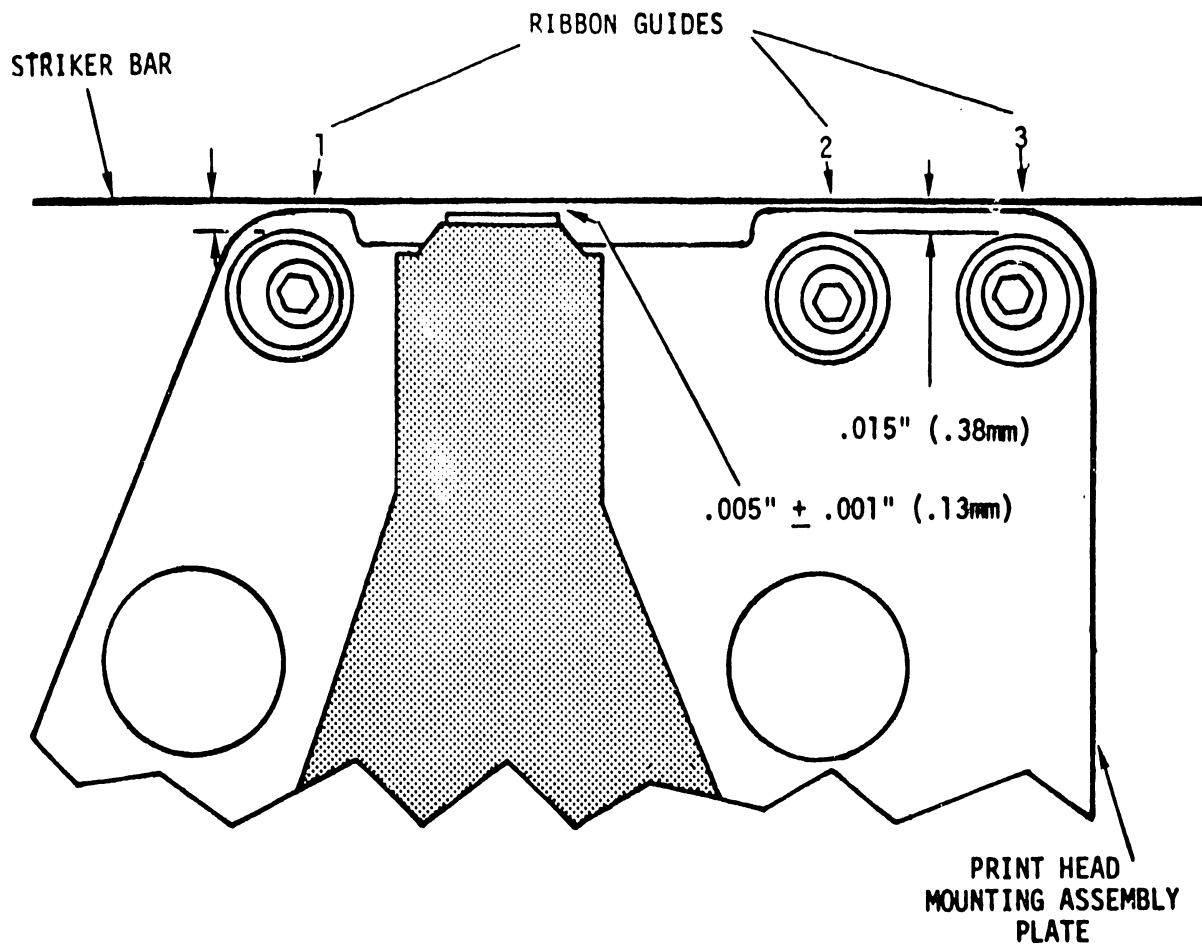

FIGURE 5-3 RIBBON GUIDES AND PRINT HEAD ADJUSTMENT
- 2) Continue by checking ribbon guides 1, 2 and 3. The ribbon guides should be $.015"$ ($.4 \text{ mm}$) from the striker bar. See Figure 5-3.